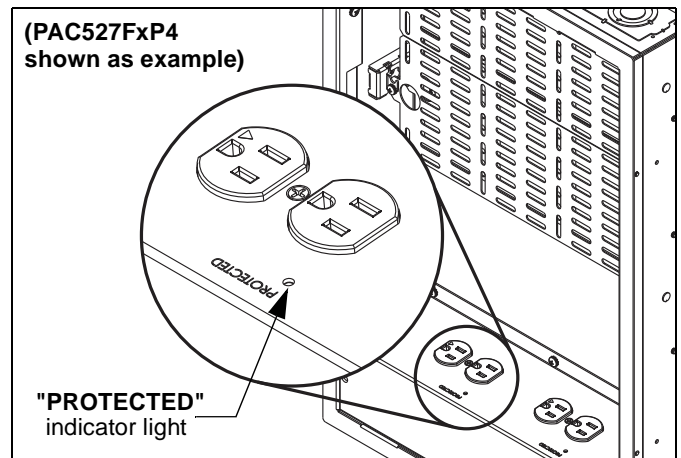

**Figure 2**
- Wire the outlet box(es) as required. Refer to Table 1 and Table 2 for input and output specifications. (See Figure 2)
- Replace the power kit in the PAC527, fitting the two slots in the power kit lower tab around two fasteners in the PAC527. (See Figure 1) and (See Figure 2)
- Tighten three Phillips screws to secure power kit in the PAC527. (See Figure 2)